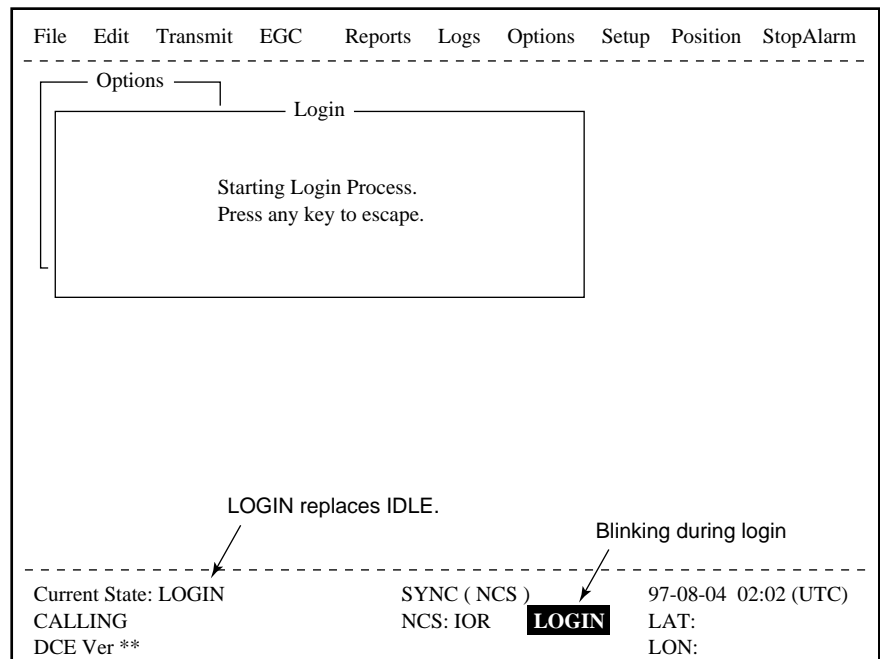

Figure 2-17 Appearance of display screen during login
5. LOGIN begins and the screen should now look something like Figure 2-17. The indication LOGIN appears in blinking reverse video.